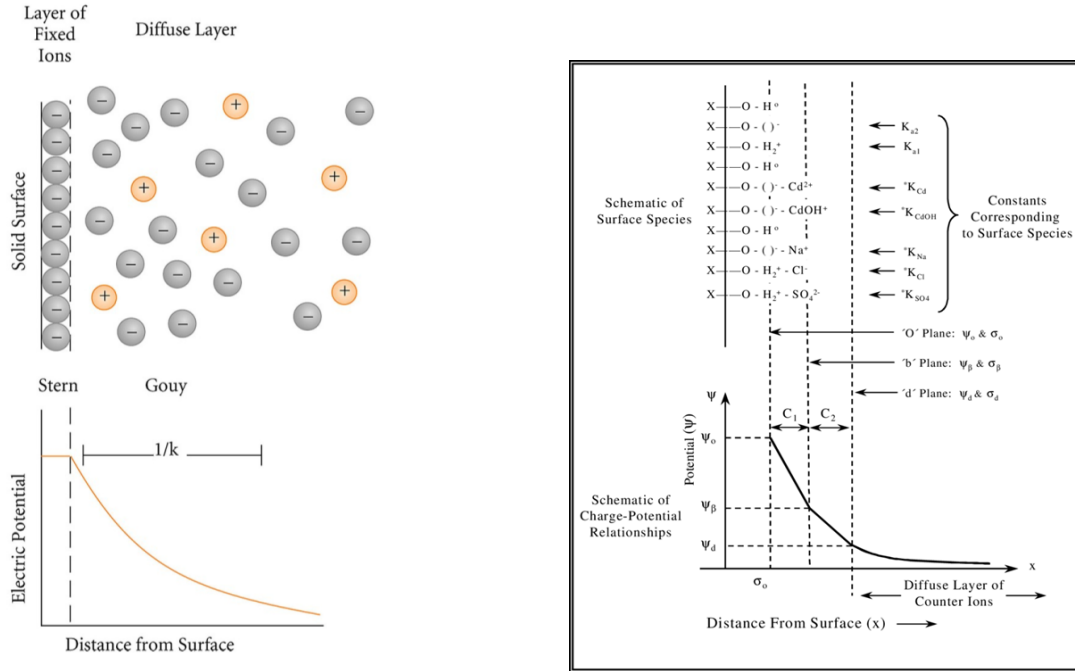

Figure 2: Schematic and formalism used in surface models to describe the charge at the surface
2. the region of counter ions with opposite charge to neutralise the charge (see Figure 2).